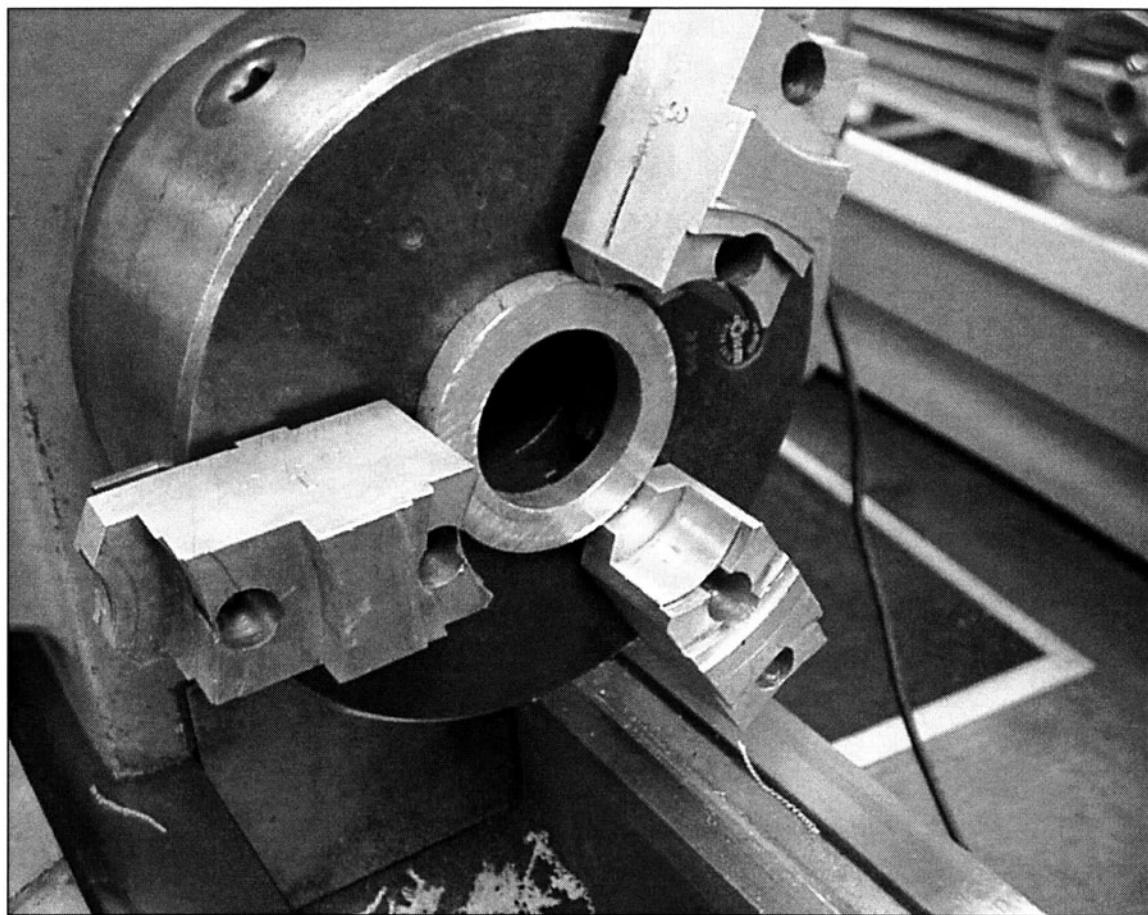

FIGURE 6-15 Choosing the proper size slug or metal ring for boring a set of soft jaws can extend the usable life of a set.
23. Remove as little material as possible when modifying soft jaws. (See fig 6-15)